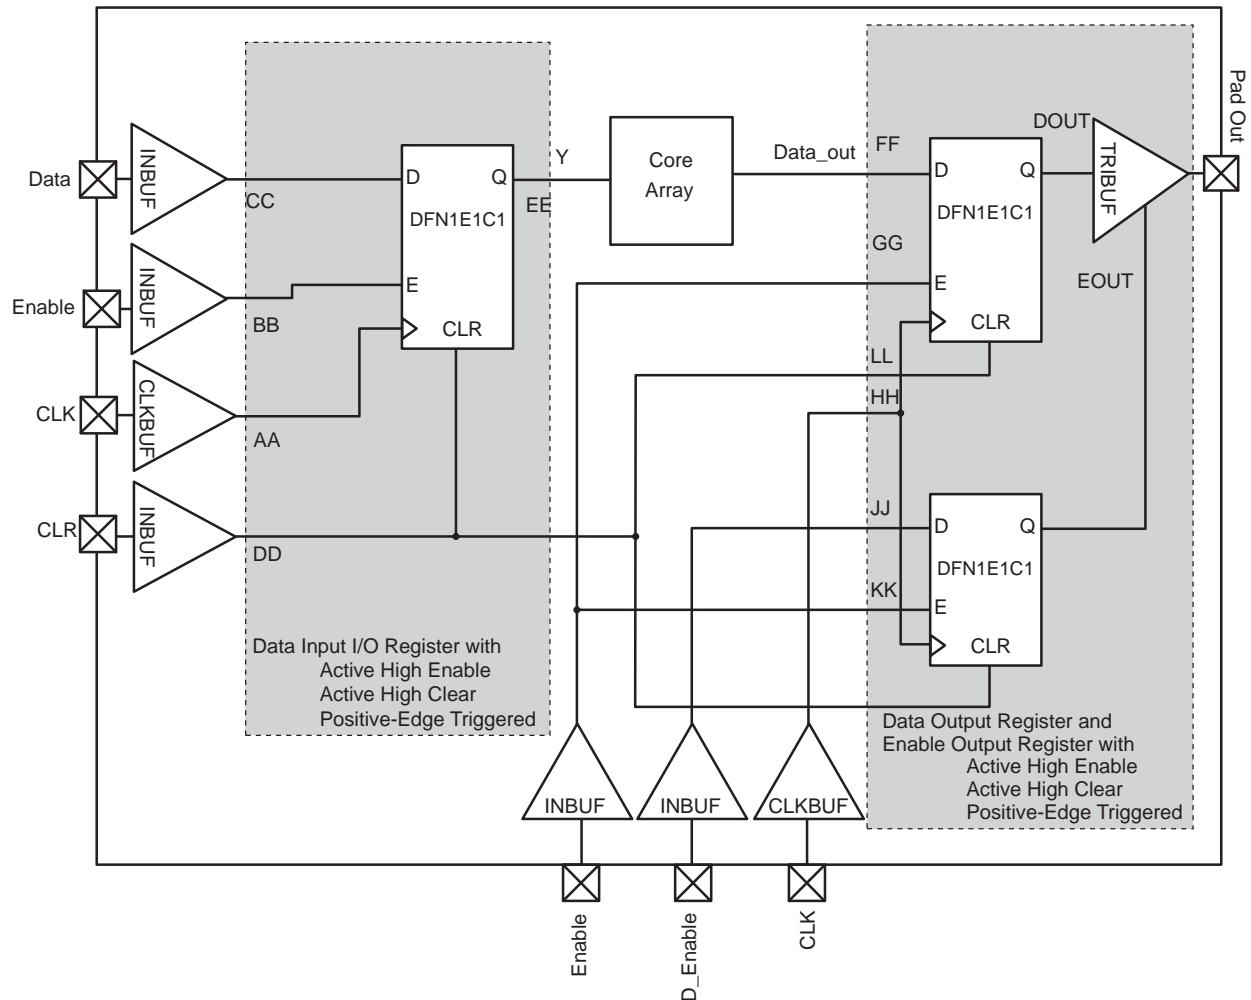

Figure 2-27 • Timing Model of the Registered I/O Buffers with Synchronous Enable and Asynchronous Clear
* See Figure 2-27 on page 2-67 for more information.